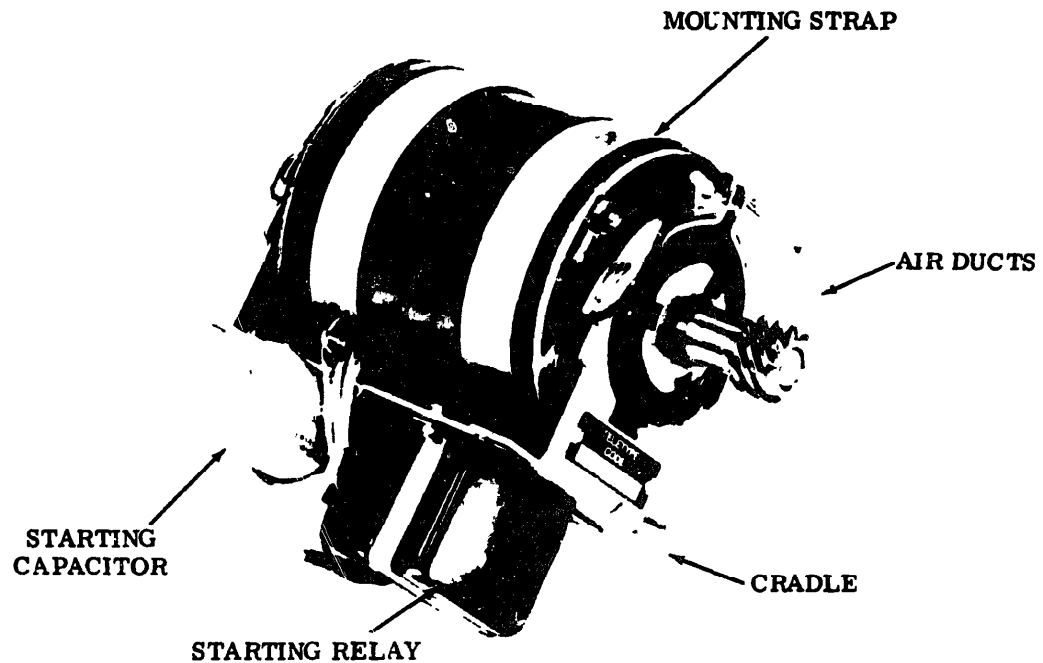

Figure 1- Typical Miniature Synchronous Motor Unit
1.03 The synchronous type motor units (Figures 1, 2, and 3) are available in miniature (25 millihorsepower), standard, and heavy duty ratings. These motor units must be operated from a standard, single-phase, regulated power source with specifications as listed in Tables A and B.
A. Miniature Synchronous Motor Units (Figure 1)